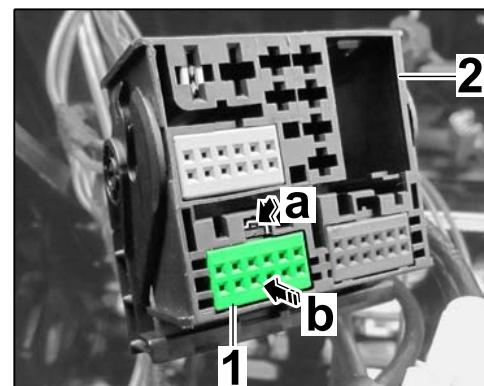

Figure 19
4.4.2 Release green plug socket \Rightarrow Figure 19-1- (\Rightarrow Figure 19-a-) and press it out of the PCM central connector \Rightarrow Figure 19-2- (\Rightarrow Figure 19-b-).